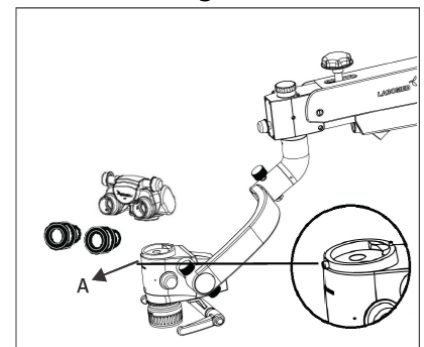

Fig. 40
- Take out the observation head (as ordered) and eye pieces from the box Referring fig. 40, loosen the tightening screw 'A' using 2mm Allen wrench (provided) and tight the observation Head in position carefully. Insert the eye pieces in both eye tubes and set both dioptre to zero.